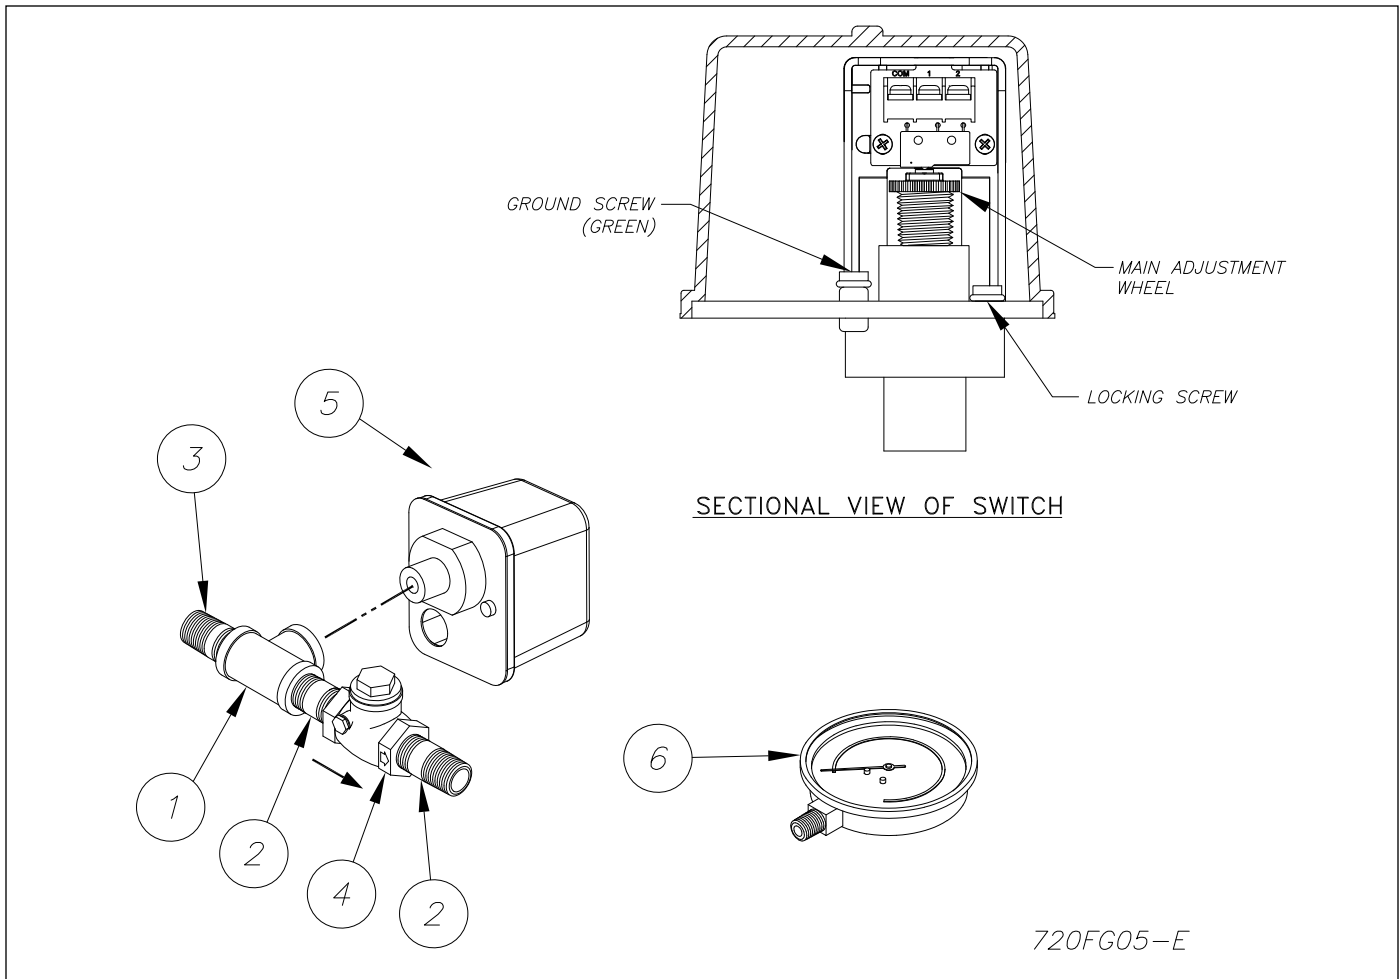

Figure 2 - Double Interlock
A preaction trim kit is available to provide a bypass drain line and to attach the air or nitrogen supply required to supervise the preaction system. This kit includes a UL Listed Reliable Model G Right Check™ Valve supplied with rigid grooved pipe couplings, as illustrated in Figure 2. To complete the Double Interlock preaction system, the switch/gauge trim kit illustrated in Figure 5 must be added.
2. The Preaction Trim Kit (P/N 6501200112), illustrated in Figure 2, consists of items 1 through 17. The assembly has a convenient arrangement for draining the sprinkler system through the Model H Riser Assembly drain line. Assemble the preaction trim kit, as illustrated, using a suitable PTFE - based pipe thread sealant applied to each male thread.